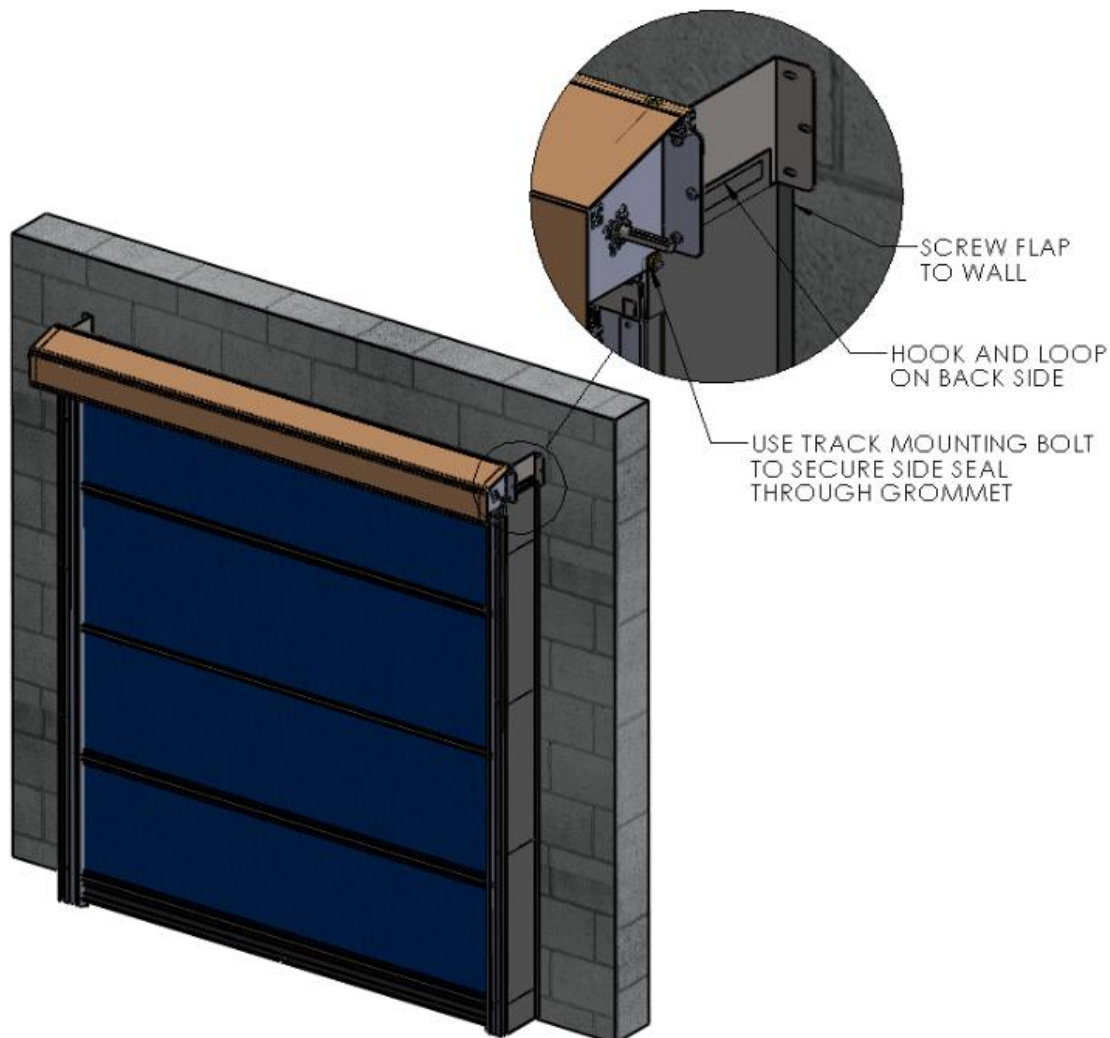

Figure 8 SECURE SIDE SEAL
(Figure 8 SECURE SIDE SEAL)
2. Fold the Side Seal Material to flatten it against the wall, and secure it through the material into the wall with appropriate screws. (Figure 8 SECURE SIDE SEAL)